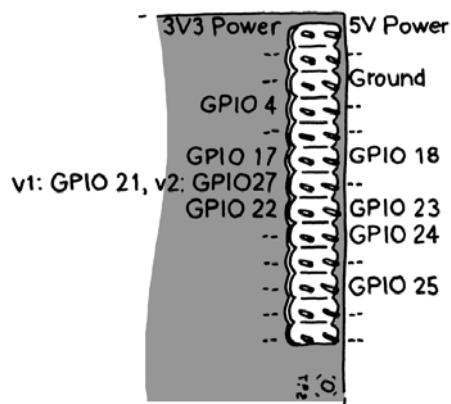

Figure Q4[b]
- [b] A red LED, a green LED and a switch are connected to pin 4, 17 and 18 of a Raspberry Pi microcontroller respectively. Draw the electrical circuit showing the connections. Figure Q4[b] shows the GPIO pins on the Raspberry Pi microcontroller.**
- [d] Figure Q4[d] shows a python program for a Raspberry Pi microcontroller with a switch connected to pin 17. Add comment for each line of the program code. Explain what happen when the switch is pressed repeatedly.